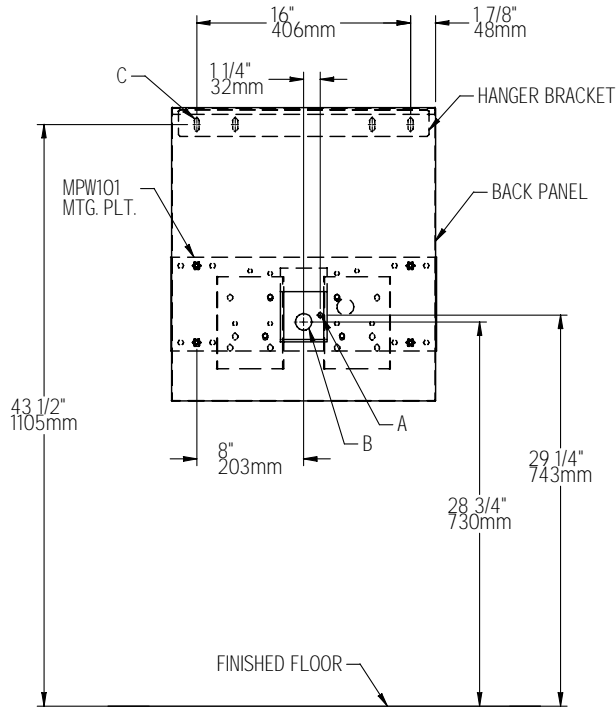

Figure 5 -Rough-in EDFPB(V)114C W/MPW101 MOUNTING PLATE
1. **Fountains using the MPW Mounting Plate** refer to Figure 5 for hanger bracket location and rough-in dimensions.